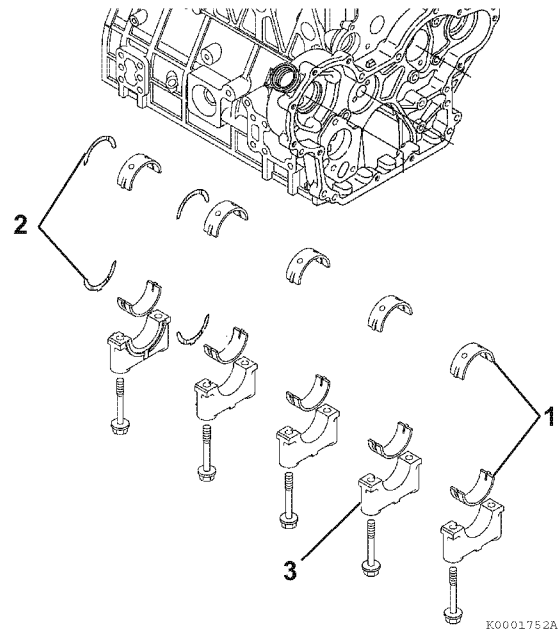

Figure 6-61
4. Remove the main bearing caps (**Figure 6-61, (3)**). Be sure to note the markings on the main bearing caps, or mark them yourself, so they can be reinstalled in the same order as they were removed. Do not remove the bearing inserts at this time.
7. Remove the bearing inserts (**Figure 6-61, (1)**) and thrust bearings (**Figure 6-61, (2)**).